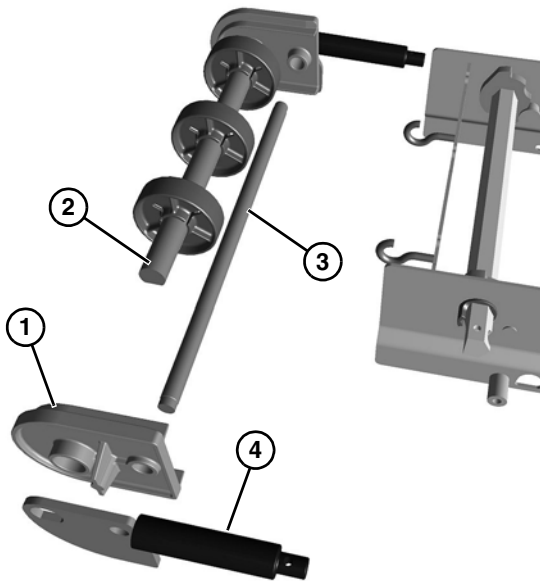

Figure 61
3. Install the tracking plate (**Figure 61, item 1**) to each side onto idler shaft (**Figure 61, item 2**) and pinch guard shaft (**Figure 61, item 3**).
4. Install the shaft assembly (**Figure 61, item 4**).